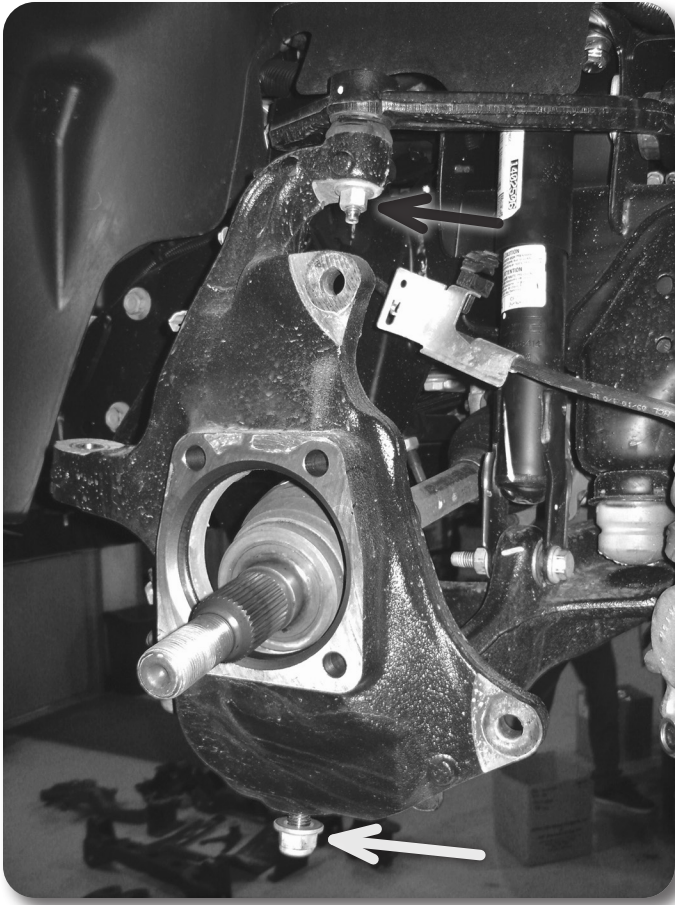

Figure 11
20. Remove the upper and lower ball joint nuts **Figure 11**. Reinstall the nuts a couple of turns by hand. Strike the knuckle near the ball joints to release the taper. Remove the nuts and remove the steering knuckle from the vehicle. Save nuts. Take care not to strike the ball joint.